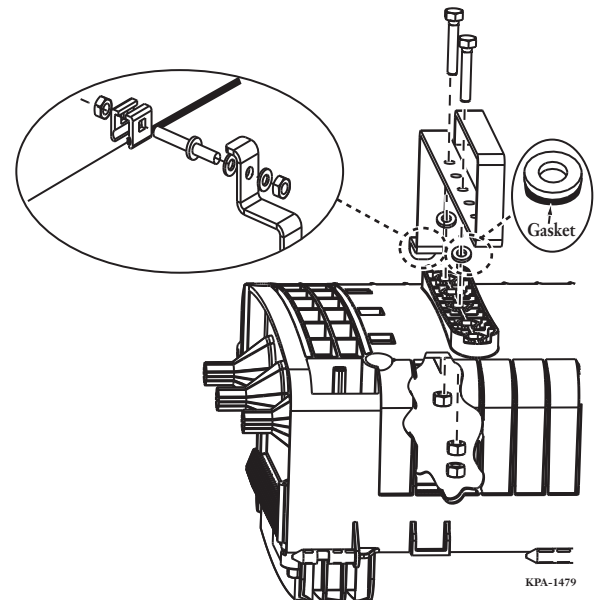

Figure 6 — Hanging Bracket Installation
- Step 3:** Place two nuts into the retainers in the bottom shell. Insert the two supplied bolts through the holes in the hanging bracket and the sealing washers with the gaskets on the washers next to the terminal. Install into the terminal and tighten (Figure 6).